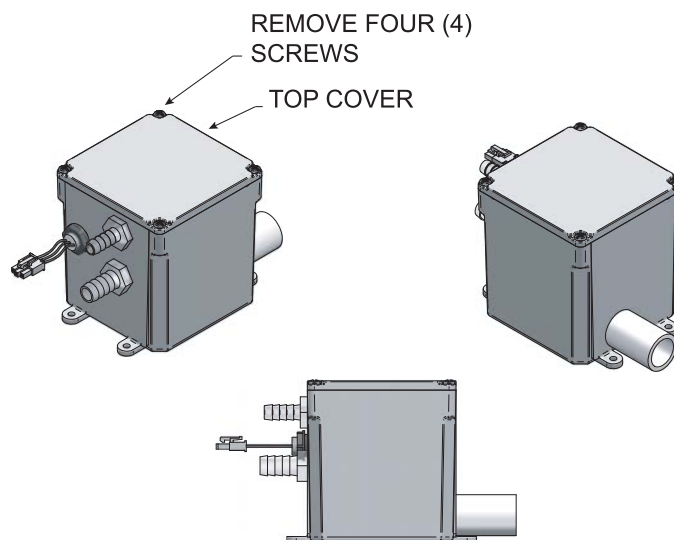

Figure 7-1_Condensate Trap
1. Remove the four (4) screws securing the top cover to the condensate trap and remove the cover (FIG. 7-1).
5. Replace the four (4) screws removed in Step 1.
The condensate trap (FIG. 7-1) must be filled with water during all times of water heater operation to avoid flue gas emission from the condensate drain line. Failure to fill the trap could result in severe personal injury or death.